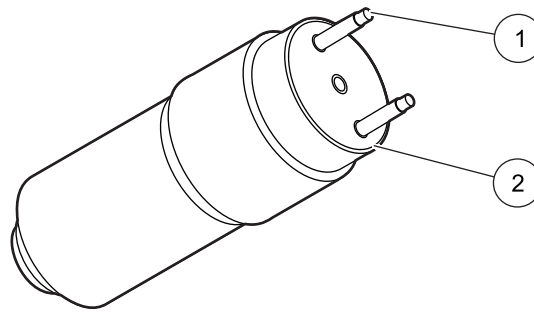

Figure 14 Removal of top of the pump
7. Remove the top of the pump. Note the locator pin (refer to Figure 14 on page 31).